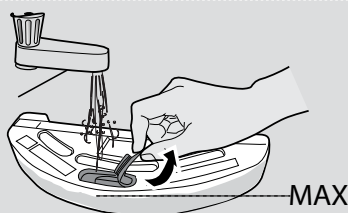

Fig. 14
2. Open the water tank's rubber cap, fill it up with water and close it again. [Fig. 14]